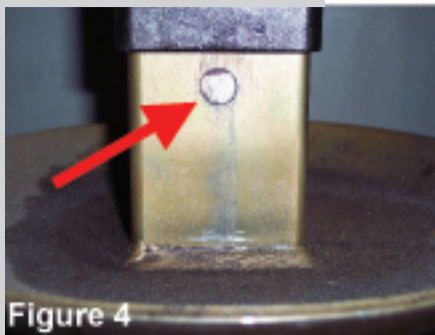

Figure 4
8. Set the inner leg so that the magnet is showing (figure 4) by rotating the 5/8" emergency retract nut (figure 5) counterclockwise.